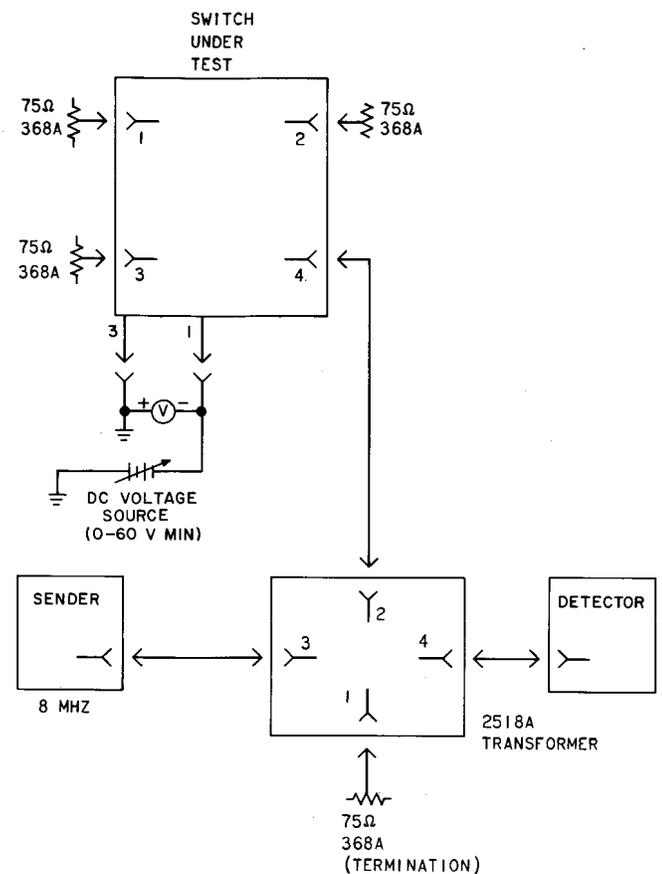

Fig. 20—Return Loss Test Circuit
- (b) Referring to the test circuit of Fig. 20, with transformer jacks 1 and 2 open circuited, adjust sender output level for a detector level indication of -10 dB.